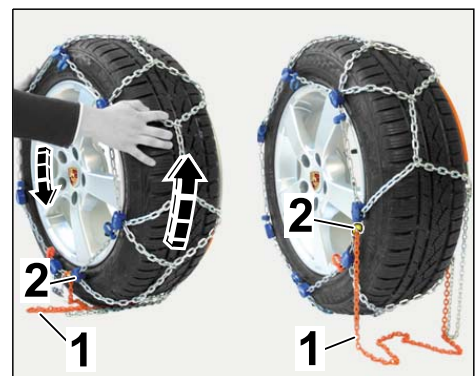

Figure 7
- 2.2.1 Drive forward or back to turn the wheel by approx. 1/4 (⇒ *Figure 7-Arrows-*).